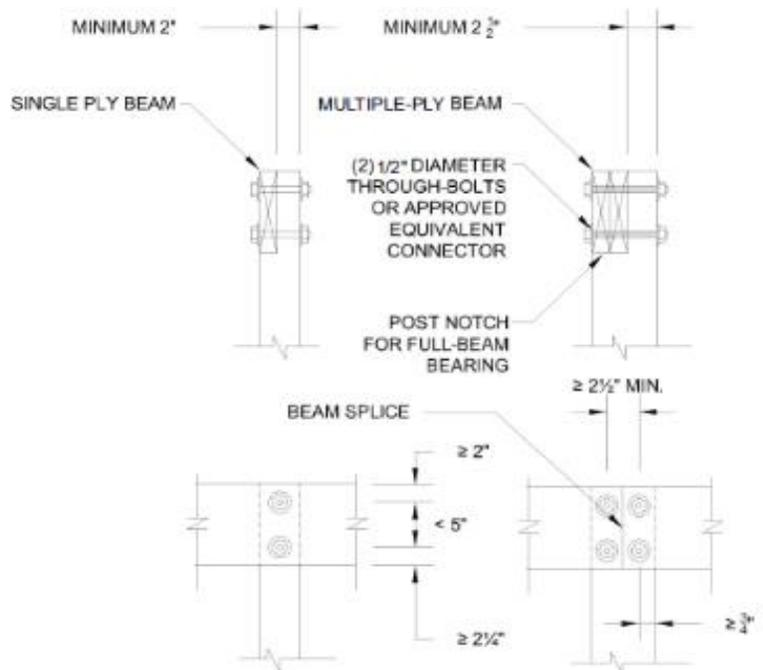

FIGURE R507.5.1(1) DECK BEAM TO DECK POST **FIGURE R507.5.1(2) NOTCHED POST-TO-BEAM CONNECTION**
- **Deck beam to deck post:** shall be connected together either by a post cap or by a notched post to accommodate **ALL PLYS** of the deck beam and be bolted together in accordance with **Figure R507.5.1(2)** below.